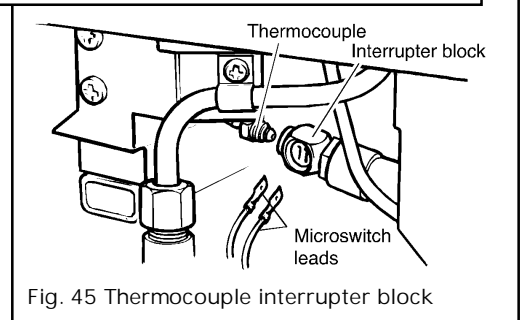

Fig. 45 Thermocouple interrupter block
**13.2.3** Loosen the thermocouple nut to free the microswitch leads and pull the leads clear of the thermocouple interrupter block (see figure 45).